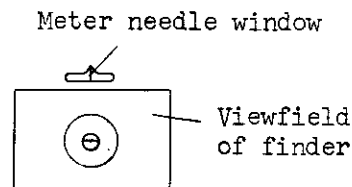

Fig. 6
A. Vertical displacement (See Fig.6)